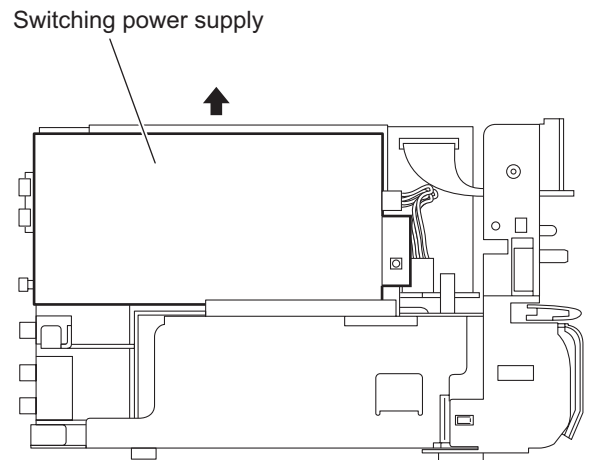

Fig.14
- Take out the switching power supply in the direction of the arrow. (See Fig.14.)